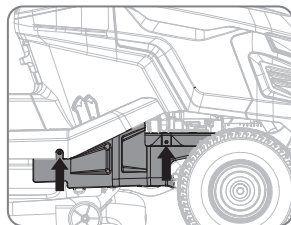

Fig. 46
3. Remove the bolts on the skirt edge (Fig. 46), two on each side, for a total of four bolts, and take out the skirt edges on both sides of the machine.